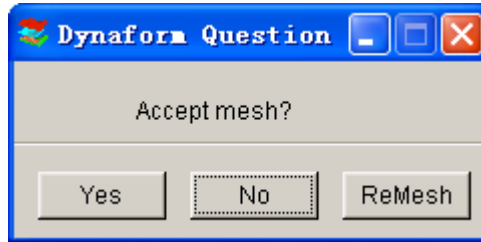

Figure 5.3.2 DYNAFORM Question window
- Select a button in the DYNAFORM Question window (Figure 5.3.2).